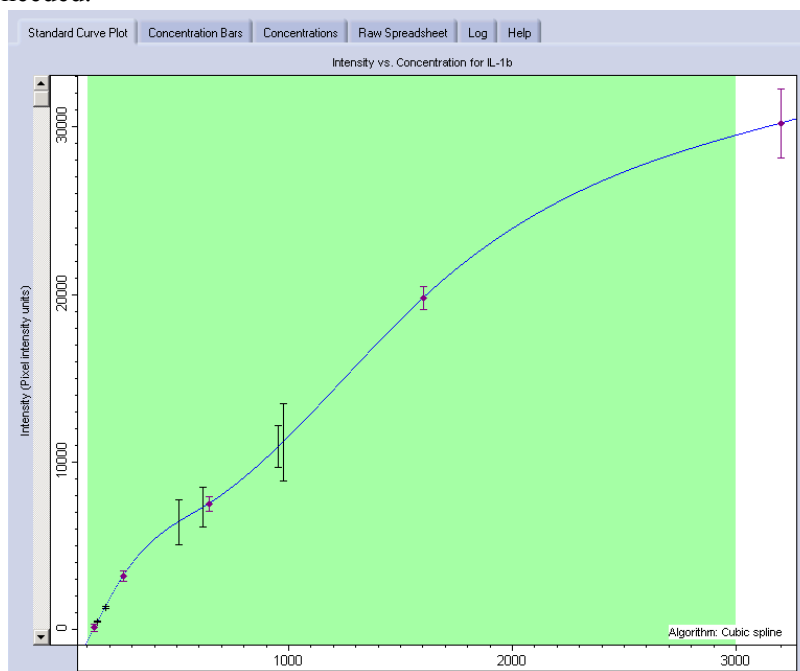

Figure 2-27 Curve Plot for IL-1b, Using the Cubic Spline Method
2. Click **OK**. The tab displays the curve plot for the selected analyte (shown in Figure 2-27).